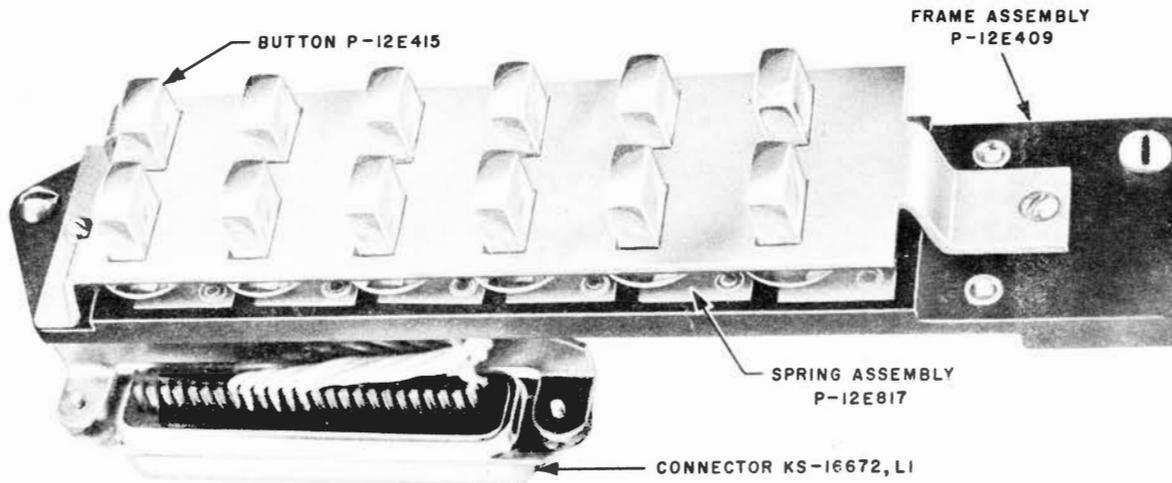

Fig. 6 — 617A Key
3.07 The 617A key module (see Fig. 6) consists of twelve nonlocking nonilluminated signal buttons in two rows of six buttons each. Each button when operated closes a normally open single make contact to a common ground strip. Ground strips are connected together by a strap and screw-type terminal at the end of each strip. One end of a spade-tipped conductor, 8 inches long, is connected under one of the screw terminals. Wiring is terminated in a 50-terminal KS-16672, List 1 connector.